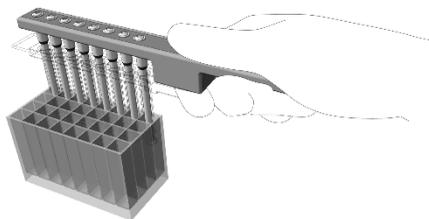

Figure 23. Collecting magnetic beads from **column 4**.
23. Using the IndiMag Handheld with the rod cover, slowly mix 10 times up and down to collect the magnetic beads from **column 4** (Figure 23). Wait until all the beads have attached to the rod cover.